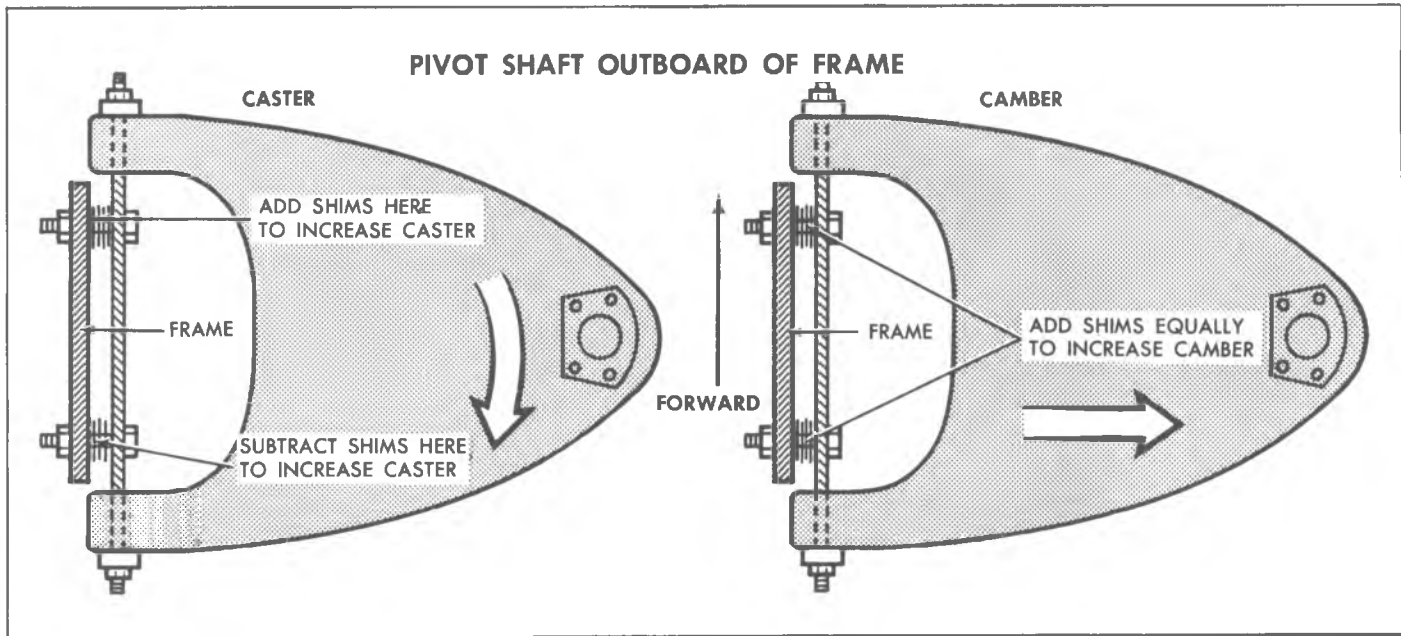

Fig. 20—Caster - Camber Adjustment
7. Correct the actual caster angle, as arrived at in Step 4, as necessary to keep within the specifications by adding or subtracting shims from the front or rear bolt on the upper control arm shaft (fig. 20).